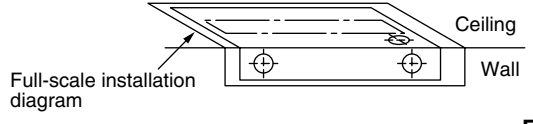

Fig. 3-37
- (1) Place the full-scale diagram (supplied) on the ceiling at the location where you want to install the indoor unit. Use a pencil to mark the drill holes (Fig. 3-37).